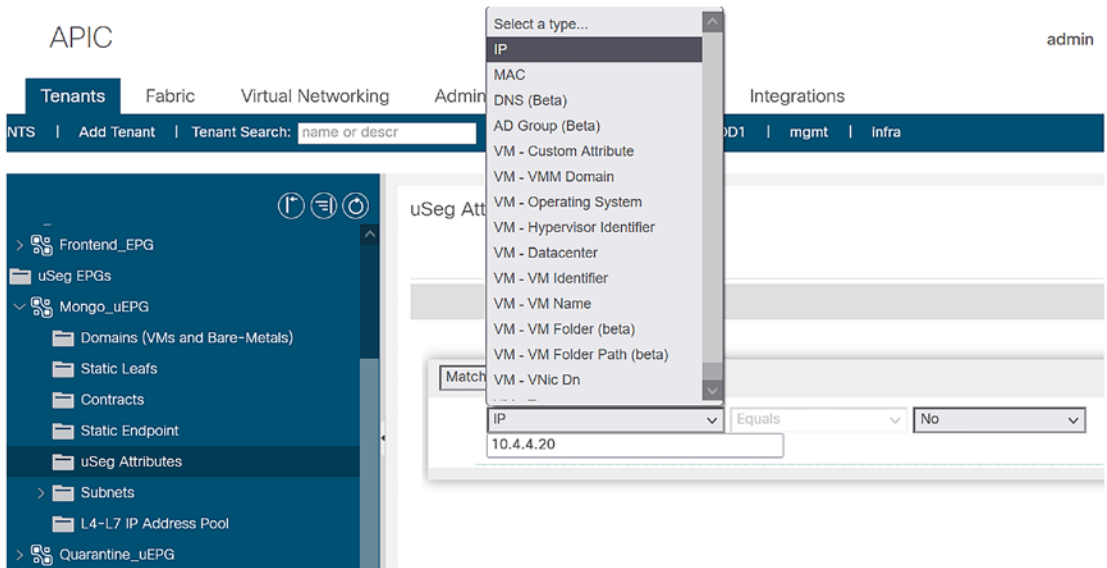

Figure 5-24. uEPG microsegmentation attributes
Finally, set the *uSeg Attributes* in the uEPG configuration, where you can choose from *Match Any (OR)* or *Match All (AND)* logical expressions and the attributes themselves (as shown in Figure 5-24). In the case of the IP attribute, you can specify the single end host IP or a subnet configured under the uEPG.